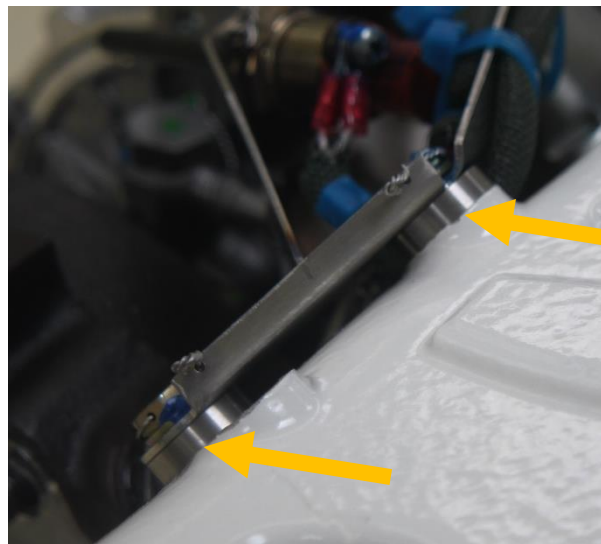

Figure 5: Fire sensor bracket shims
4. For twin engine installations only: If there is insufficient clearance between the waste-gate con-rod fail-safe bridge and the fire sensor bracket, shim between the fire sensor bracket and the injector cover with bushings BU2-20-08-0050-C. Refer to Figure 5 and the Airplane Maintenance Manual for installation.